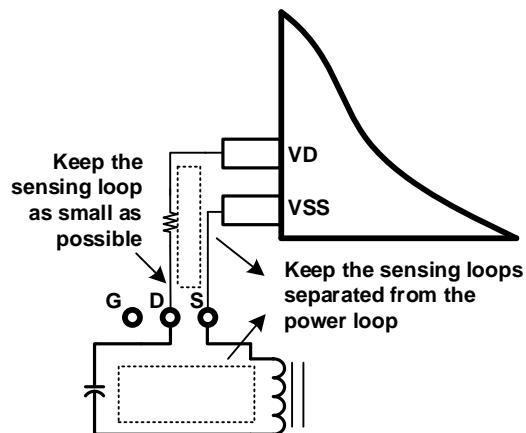
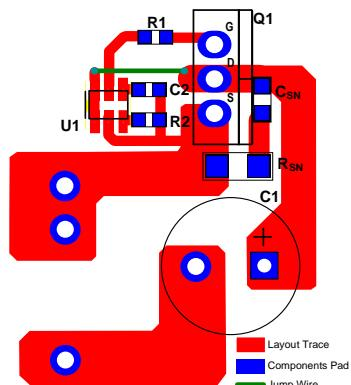

Figure 9: Voltage Sensing for VD/VSS
Figure 10: Layout Example with an SR MOSFET in a TO220 Package
Efficient PCB layout is critical for stable operation. For the best results, refer to Figure 9, Figure 10, and Figure 11, and follow the guidelines below:
3. Keep the IC out of the power loop to prevent the sensing loop and power loop from interrupting each other (see Figure 9).
Figure 10 shows a layout example of a 1-layer PCB with a through-hole transformer and an SR MOSFET in a TO220 package.  $R_{SN}$  and  $C_{SN}$  are the RC snubber network for the SR MOSFET. The sensing loop (VD and VSS to the SR MOSFET) is minimized and kept separate from the power loop. The VDD decoupling capacitor ( $C_2$ ) is placed beside VDD.